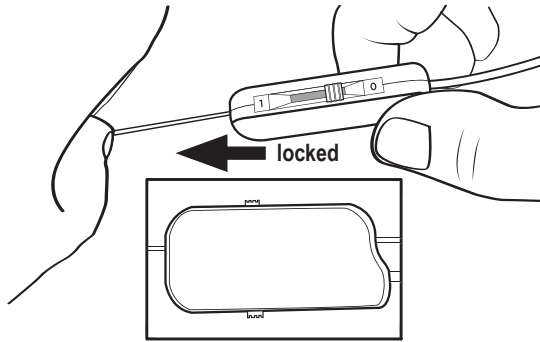

Figure 18. Securing the DBS Lead Into the 8 Contact O.R. Cable Connector
5. Check that the locking lever on the O.R. Cable Connector is in the open (0) position.
- With the Lead Stylet in place, slide the O.R. Cable Connector onto the proximal end of the DBS Lead (Figure 18). Make sure that the DBS Lead is fully inserted.
Note: *The Lead Stylet will extend through the back hole of the O.R. Cable Connector when the DBS Lead is inserted as shown in Figure 18.*
- Hold the DBS Lead in place. Slide the locking lever to the locked (1) position (Figure 18).